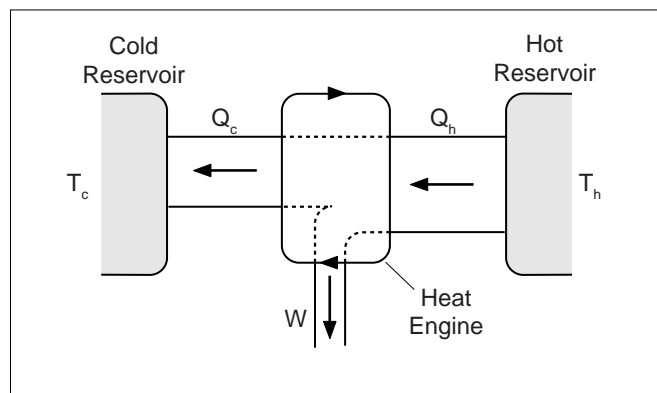

Figure 2: Heat Engine
A heat engine can be represented by a diagram (Figure 2). The law of Conservation of Energy (First Law of Thermodynamics) leads to the conclusion that  $Q_H = W + Q_C$ , the heat input to the engine equals the work done by the heat engine on its surroundings plus the heat exhausted to the cold reservoir.
►NOTE: The arrows are reversed compared to the heat in Figure 2. By conservation of energy,